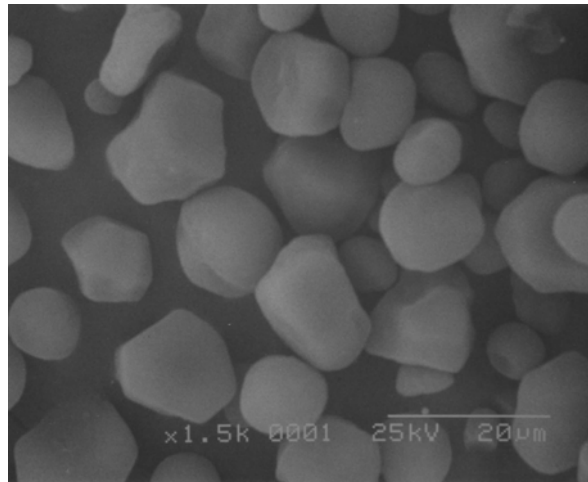

Figure 3. The starch grains of corn have a polygonal shape (SEM).
6. Make slides of the corn (*Zea mays*) starch and arrowroot (*Maranta arundinacea*) flour provided following steps 3-4 above. The starch grains of corn have a polygonal shape (Fig. 3). Observe that the starch grains of arrowroot are tiny which makes the flour easy to digest.